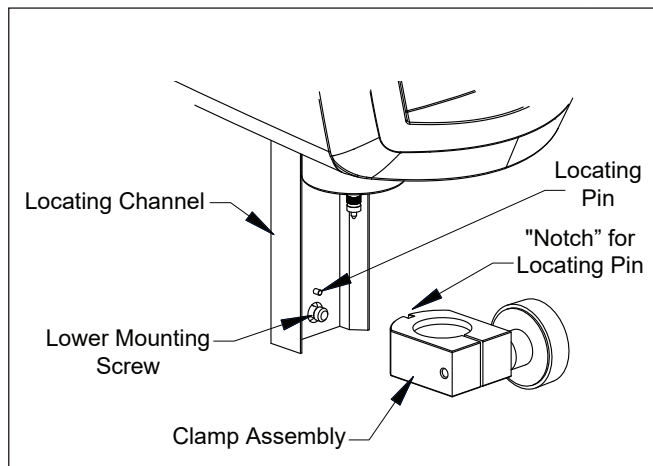

Figure 4: Installing the Clamp Assembly
2. Attach the clamp assembly to the locating channel, as shown in Figure 4, by screwing the lower mounting screw on the locating channel into the hole at the back of the clamp assembly.